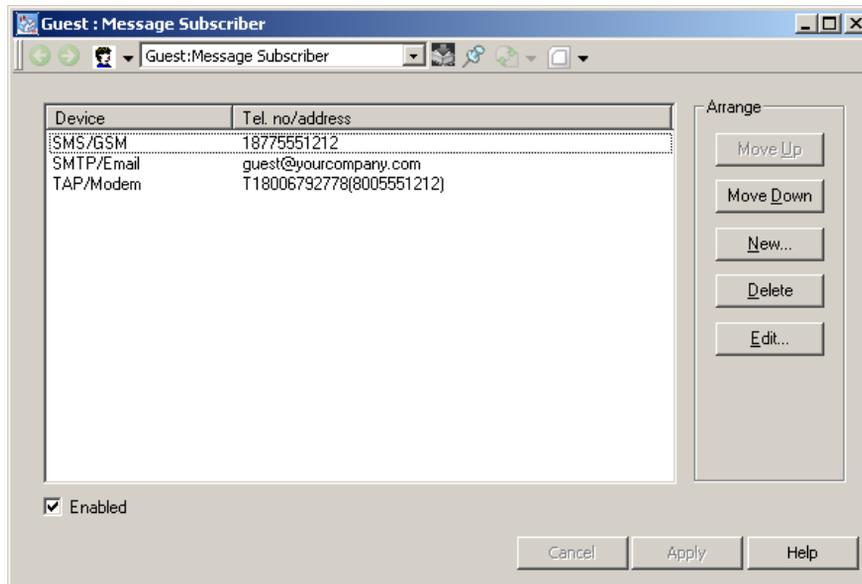

Figure 107. Configured Message Subscriber
24. The Message Subscriber now looks like the view shown in Figure 107.
25. To enable these devices, make sure the **Enabled** check box in the Message Subscriber is checked (Figure 107). To disable these devices, clear the check box. If the check box is cleared the user will not receive messages.